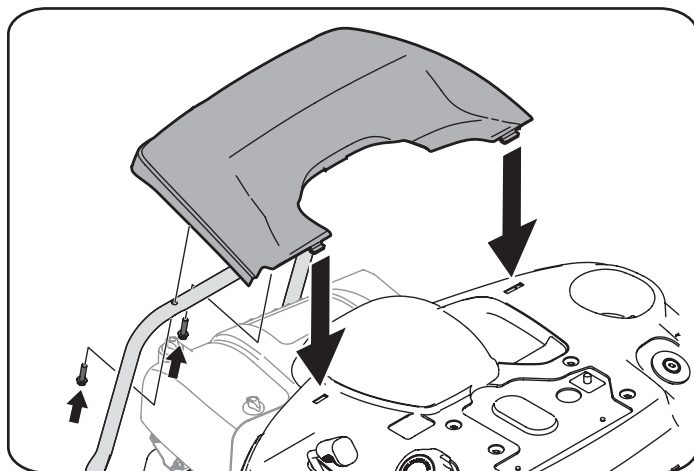

Figure 13
1. Remove the two factory installed hex screws located on the rear engine cover mounting bracket. Retain the screws for later instructions. See Figure 13.
2. Install the rear engine cover by positioning it in place as shown in Figure 13. Tip the engine cover forward to fit it into the slots provided, then rotate it backwards to align the mounting holes.